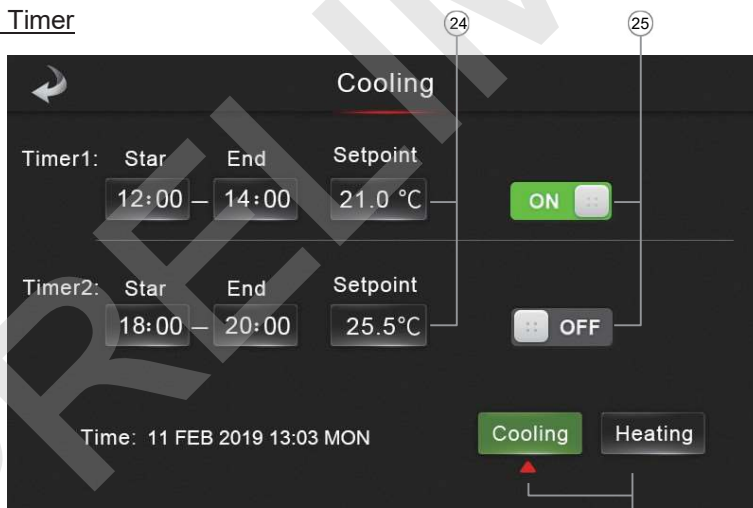

Fig. 5 Temp timer interface
2. Subsequently, press the Temp Timer button labeled "20" (refer to Fig. 4), which will navigate to the Temp Timer interface (refer to Fig. 5).